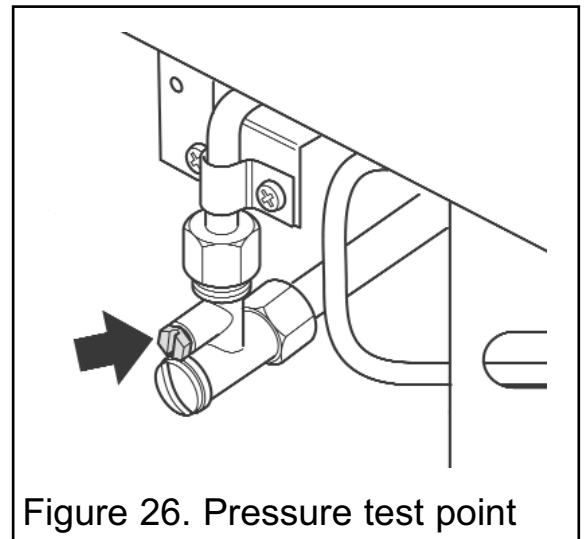

Figure 26. Pressure test point
1. Check the inlet pressure by fitting a pressure gauge at the test point. The test point is on the inlet 'T' connector (See figure 26). Check the pressure with the appliance alight and set at maximum output.